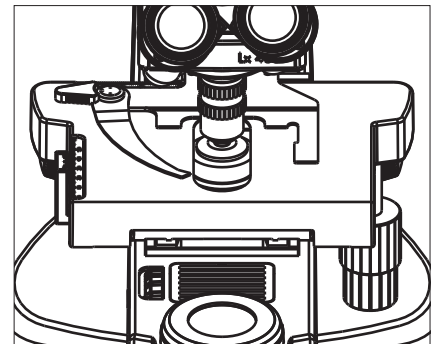

Fig. 3
3. Remove the 100X objective from nosepiece adapter and attach 100X (SL, Oil) achro objective (Iris) as shown in Fig.3